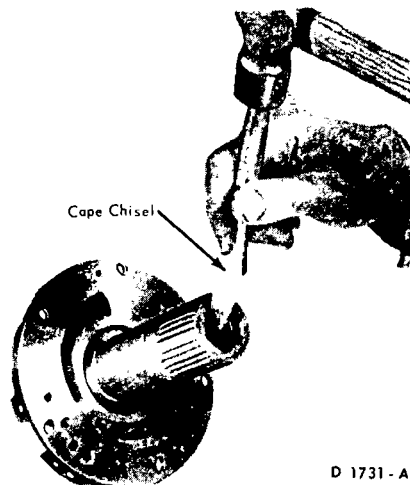

FIG. 75—Removing Stator Support Bushings
3. Remove the front and rear stator support bushings if they are worn or damaged. Use the cape chisel (Fig. 75) and cut along the bushing seam until the chisel breaks through the bushing wall. Pry the loose ends of the bushing up with an awl and remove the bushing.